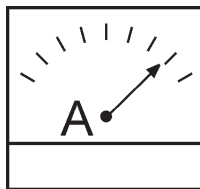

Figure 53. Ammeter (Load)
14. Observe the generator's ammeter (Figure 53) and verify it reads the anticipated amount of current with respect to the load. The ammeter will only display a current reading if a load is in use.